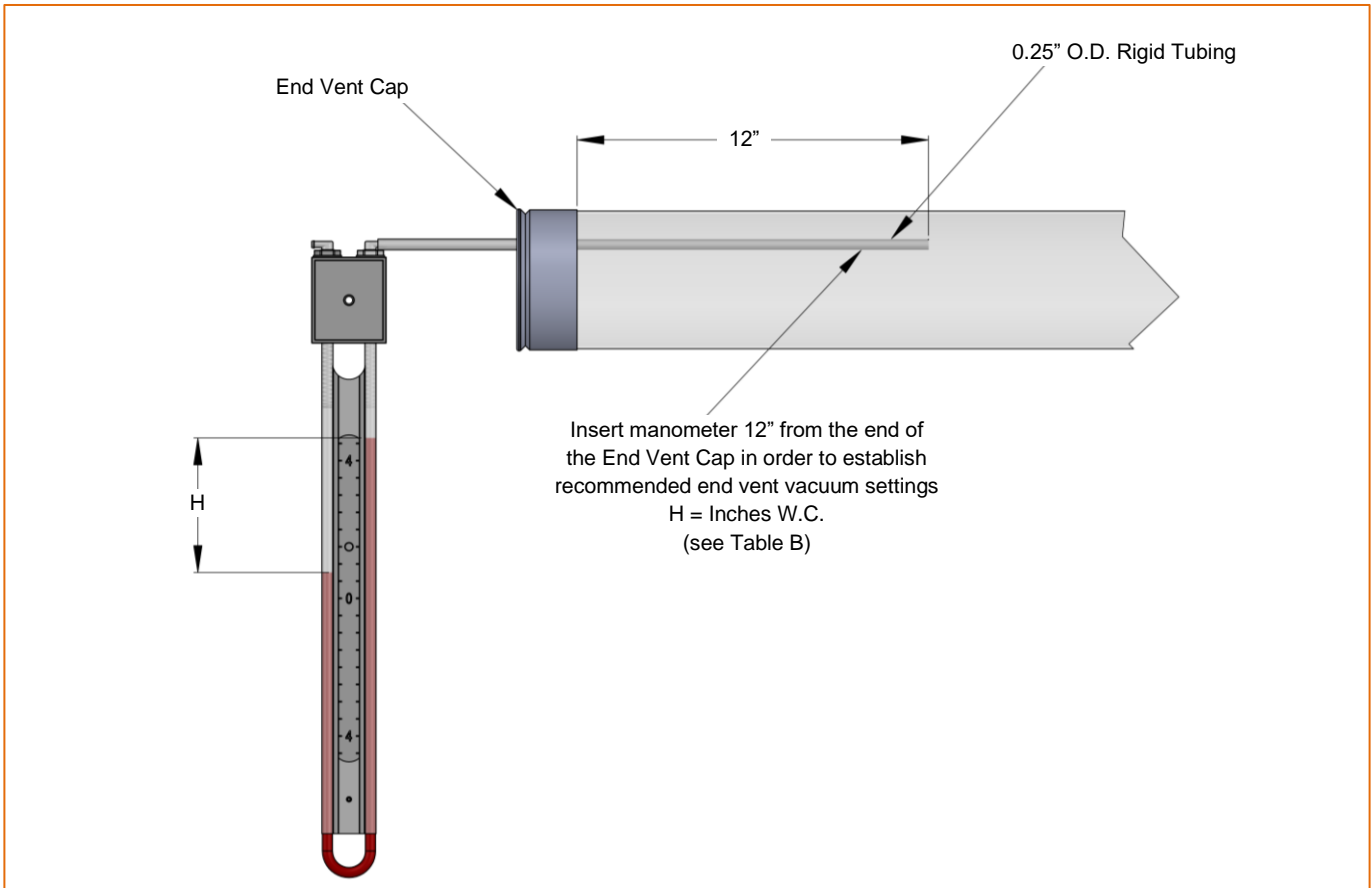

Figure 41: Manometer Placement Diagram
3. With a manometer check the vacuum at the End Vent Cap of the longest Branch. (Refer to Figure 41 for manometer positioning details.)